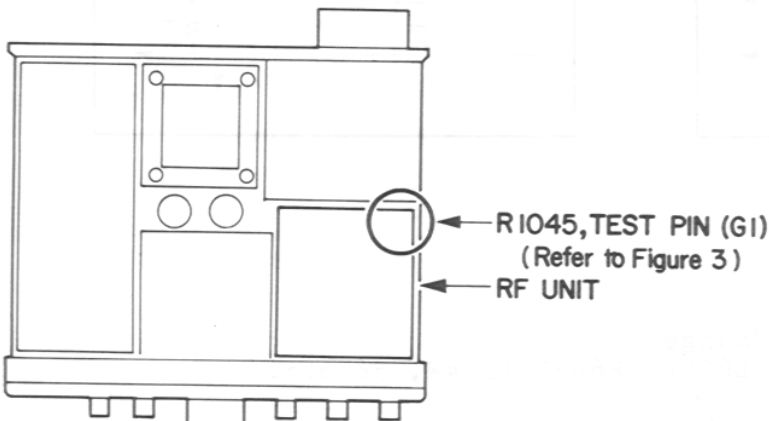

Figure 1
1. On the component side of the RF Unit, install a 1  $\mu$ F, 50 WV electrolytic capacitor, as shown in Figures 1 and 2. The positive lead of the capacitor is soldered to the lead of R1045, and the negative lead to the TEST PIN (G1).